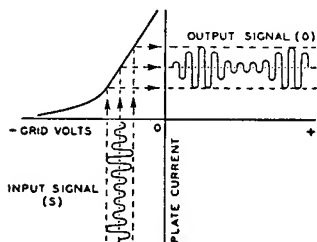

Fig. 13—Current characteristics of class A amplifier.
Fig. 13 gives a graphical illustration of this method of amplification and shows, by means of the grid-voltage vs. plate-current characteristics curve, the effect of an input signal (S) applied to the grid of a tube. The output signal (O)